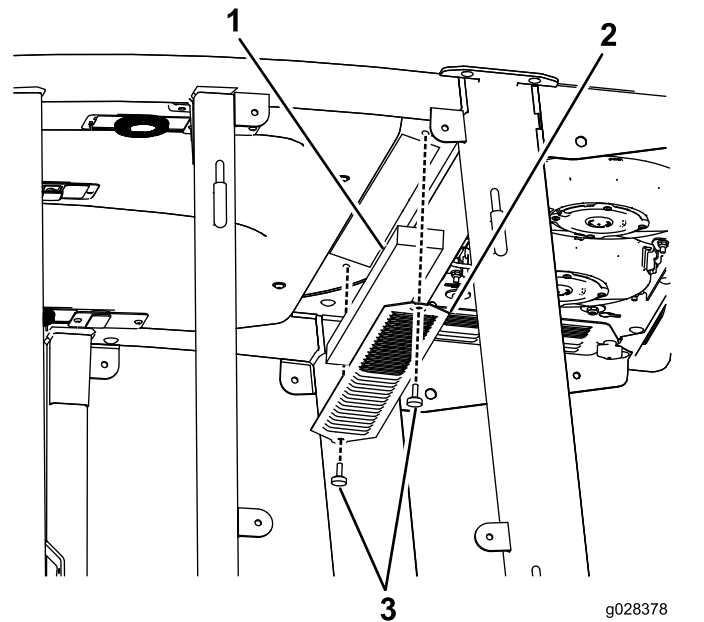
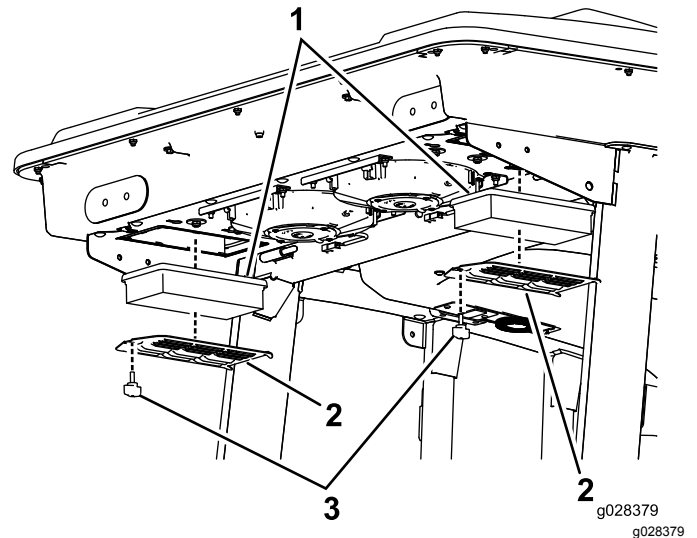
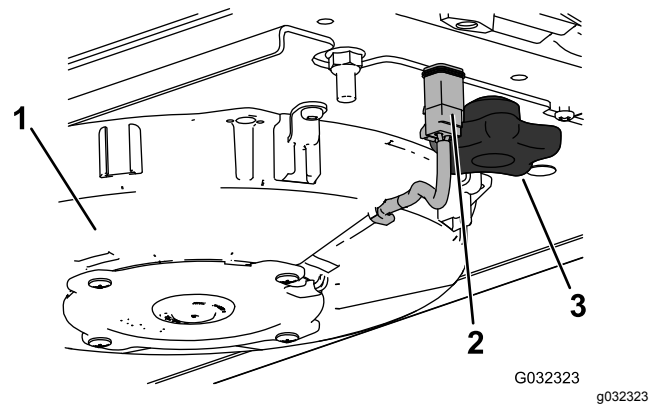
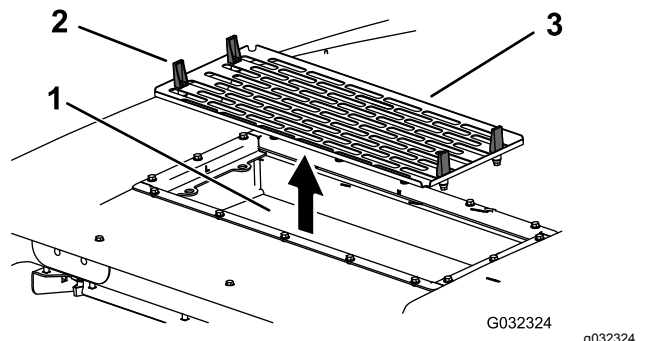

Figure 92
Figure 93
Figure 95
Figure 96
1. Remove the screws and grates from both the in-cab and rear cab air filters (Figure 92 and Figure 93).
4. Remove the air filters (see Figure 93).
6. Install the air filters, screen, and fan assembly (Figure 93, Figure 95, and Figure 96).
7. Connect the wire for each fan (Figure 95).